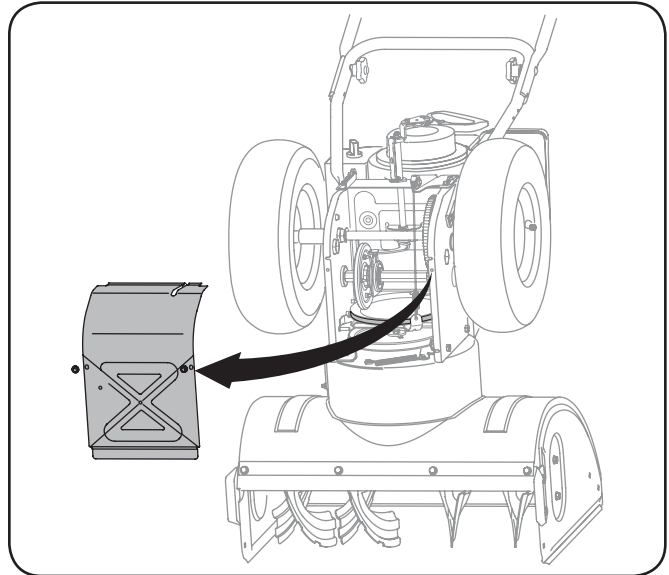

Figure 8-3
5. Remove the frame cover from the underside of the snow thrower by removing four self-tapping screws which secure it. See Fig 8-3.
5. Remove the frame cover from the underside of the snow thrower by removing four self-tapping screws which secure it. Refer to Fig. 8-3.